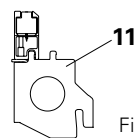

Fig. A5.07
- in the End Support SSL (11) in a longitudinal direction. (Fig. A5.07)
Use the End Support SSL as height adjustment for the transition from a standard bay to an infill area. (Fig. A5.07)